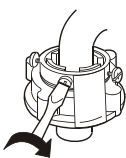

Figure 4
4. To install the back cover, first hang the lower beard of the back cover on the cabinet, then push the claws at the two side and the upper end from bottom to top to resume the original setting. Be careful not to do it by force. Then fasten the screw (two points) (as indicated in Figure 4).
4. Fasten the four screws evenly. See to Figure 4.